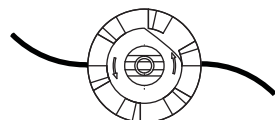

Fig. 22
3. Remove any old line from the inner reel or obstructions from the outer spool. (Fig. 22)